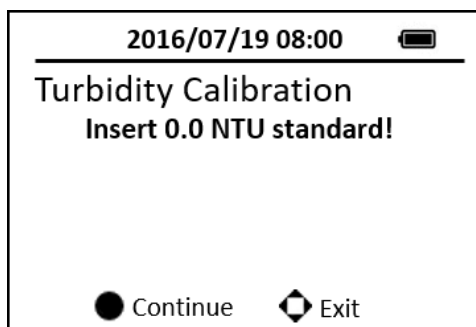

Figure 19. Turbidity Calibration-1
4. Press the **CAL** on the main page, then choose the Turbidity calibration and press the **OK** button to launch the Turbidity calibration page. (Figure 19)